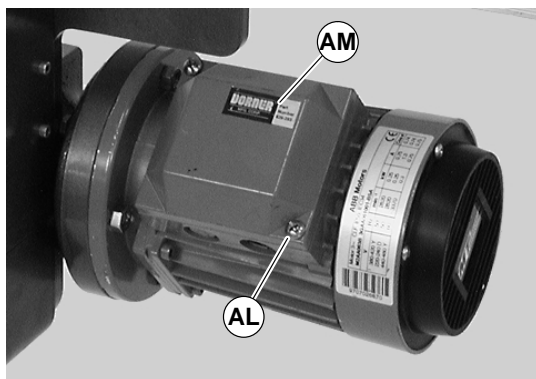

Figure 23
- Loosen terminal box screws (AL of Figure 23) and remove cover (AM).